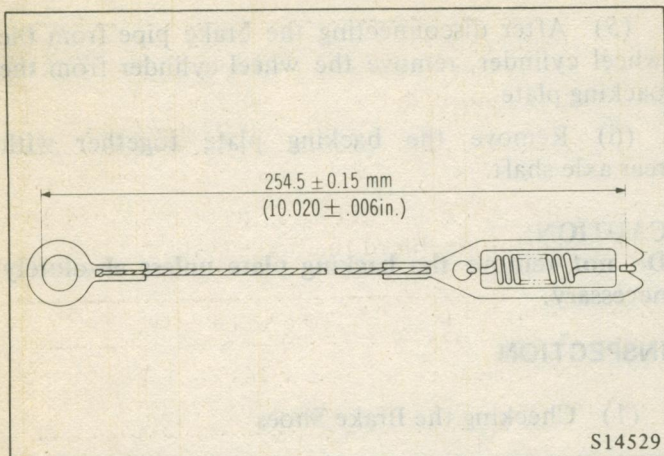

Fig. 31 Measuring Adjusting Cable Length
- (3) Check the adjusting lever and adjusting latch for wear and damage. Measure the adjusting cable length (Fig. 31). Replace any part that is defective.